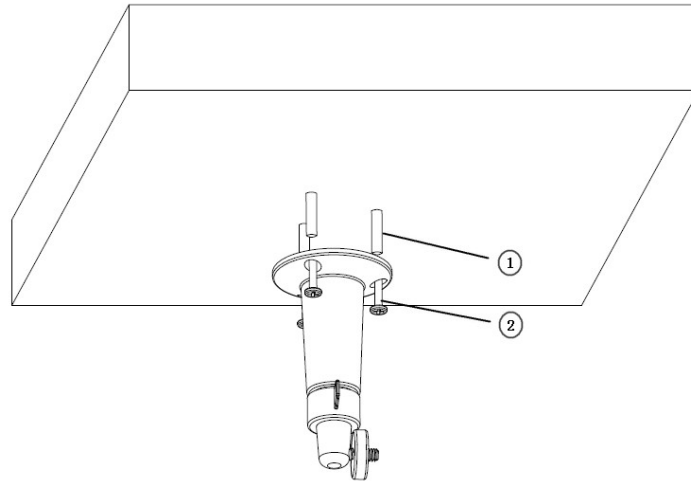

Fig 2.2.1 Fix camera mounting bracket
If it is wall, you need to fix the expand bolt (note: the mounting hole of the expand bolt should align with the bracket) before fixing the bracket as ① in Fig 2.2.1 . If the wall surface is wooden, the part of ① in Fig 2.2.1 can be ignored and you can use the self-tapping screw to directly fix the bracket. Please note that the wall on which the camera is fixed should be able to bear at least three times the weight of the bracket and the camera.